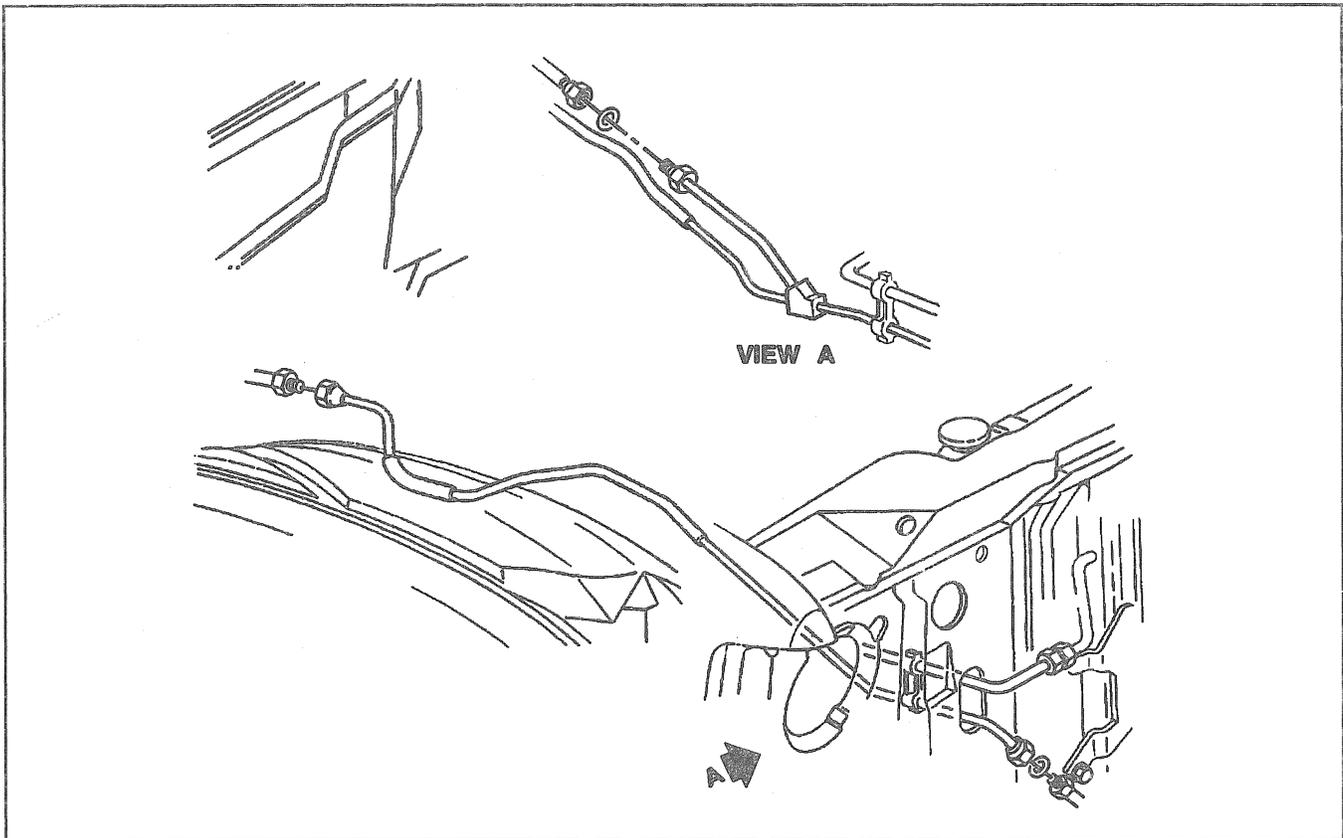

Figure 34—Evaporator Tube
**Remove or Disconnect (Figure 34)**
**Install or Connect (Figure 34)**
### Remove or Disconnect (Figure 34)